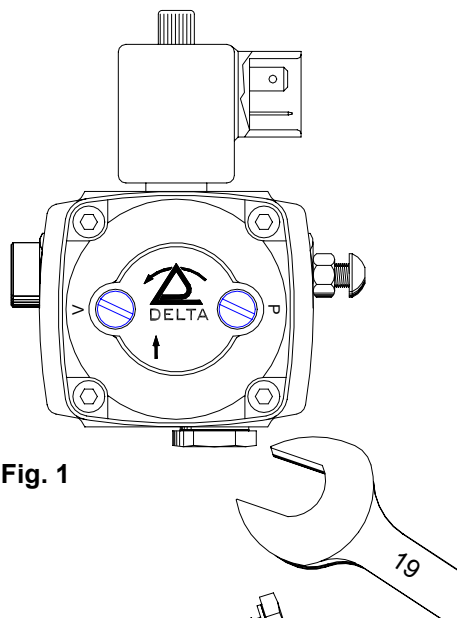

Fig. 1
- a) Using a 19 mm wrench, remove the 1/4" plug from return port (Fig. 1).
- e) Insert and screw a 1/4" plug into the return port (Fig. 1).